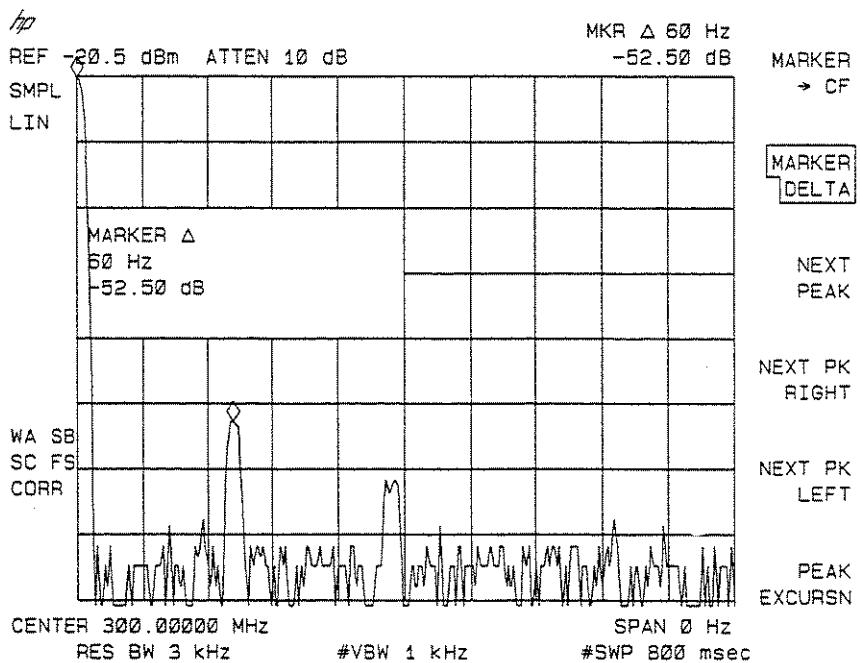

Figure 2-29. Using the FFT Function
- 10. A marker is automatically placed on the carrier at the 0 Hz reference (at the left edge of the graticule). Press **MARKER DELTA** and turn the knob to the modulation to determine the frequency and amplitude difference from the carrier. See Figure 2-29.
The results of the FFT function are displayed on the analyzer screen. The carrier appears at the left edge of the graticule with the modulation sidebands, and any distortion appearing along the horizontal graticule. The left edge of the graticule represents 0 Hz relative to the carrier. The right edge represents the maximum FFT frequency calculated (250 Hz), which is 200 divided by the sweep time. (See Figure 2-29.) The amplitude relationships among the carrier, sidebands, and distortion components are the same as they would be if the components were displayed with swept-tuned operation in log mode, 10 dB per division.